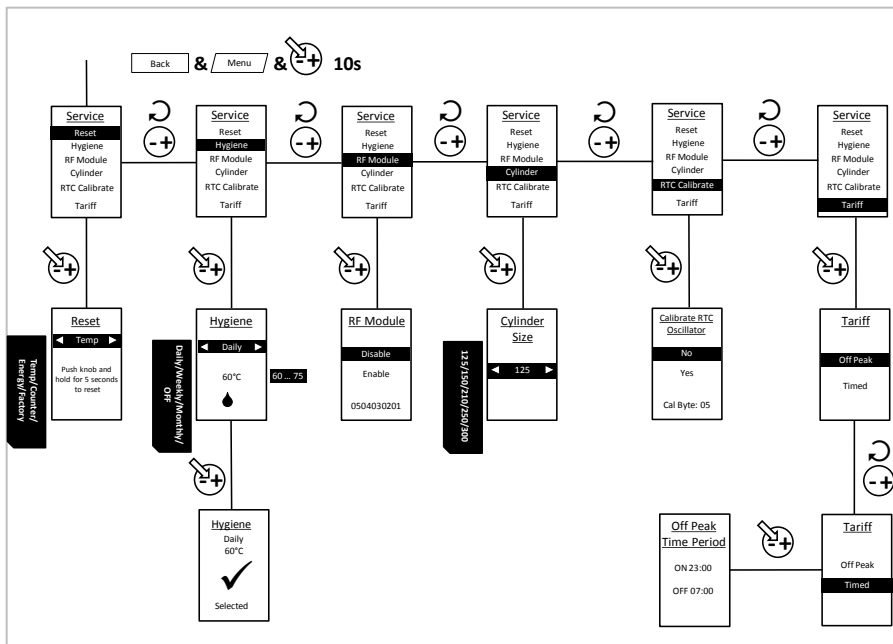

Figure 12: Service Menu for Factory Reset and Communications Set Up
required option is highlighted press and hold the selector dial for 5 seconds (see Figure 12 for how to access the reset function).
- hygiene mode can be set to either Daily, Weekly, Monthly or Off temperature for hygiene mode operation can then be set between a range of 60-75°C (see Figure 12 for how to access the hygiene function).
The water can be controlled by the utility via the RF module installed. Where this communication mode is not available the unit can be operated in standalone mode (i.e. when communications with the utility are cut off, the cylinder operates in standalone mode). In this mode the heater tries to achieve 60°C at T1 and tries to maintain this throughout the day. The communications of the appliance can be changed as shown in Figure 12.